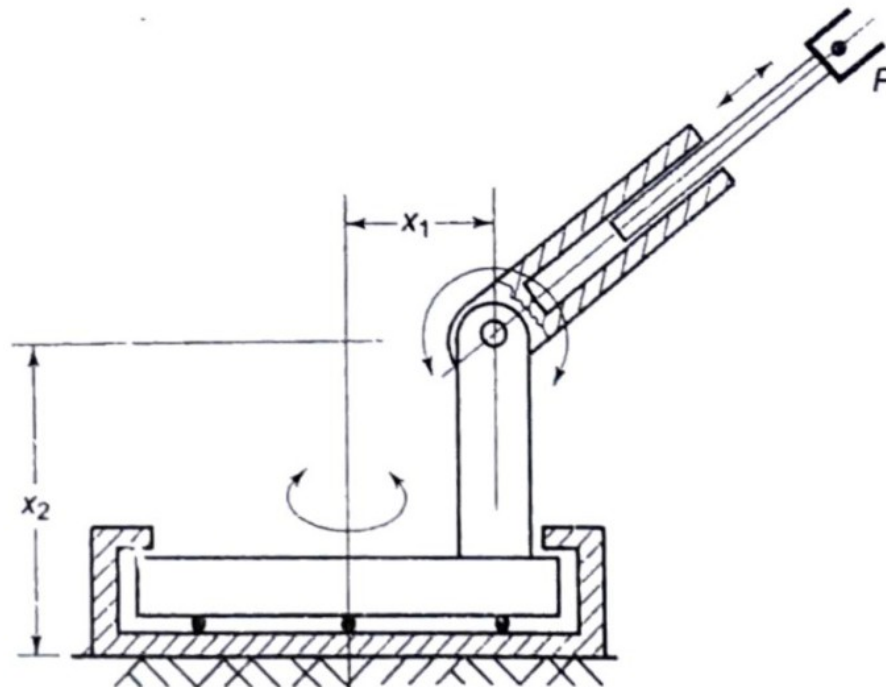

Figure Q3a
- a) In figure Q3a is 3-DOF manipulator, vector $\mathbf{q} = [90^\circ \ -45^\circ \ 100\text{mm}]^T$ with $x_1 = 50$ mm and $x_2 = 40$ mm. Obtain the position and orientation of tool point P .